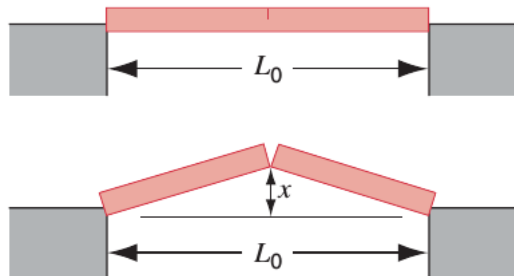

FIGURE 21-19. Problem 8.
8. As a result of a temperature rise of 32 °C, a bar with a crack at its center buckles upward, as shown in Fig. 21-19. If the fixed distance $L_0 = 3.77$ m and the coefficient linear expansion is 25×10^{-6} °C, find x , the distance to which the center rises.